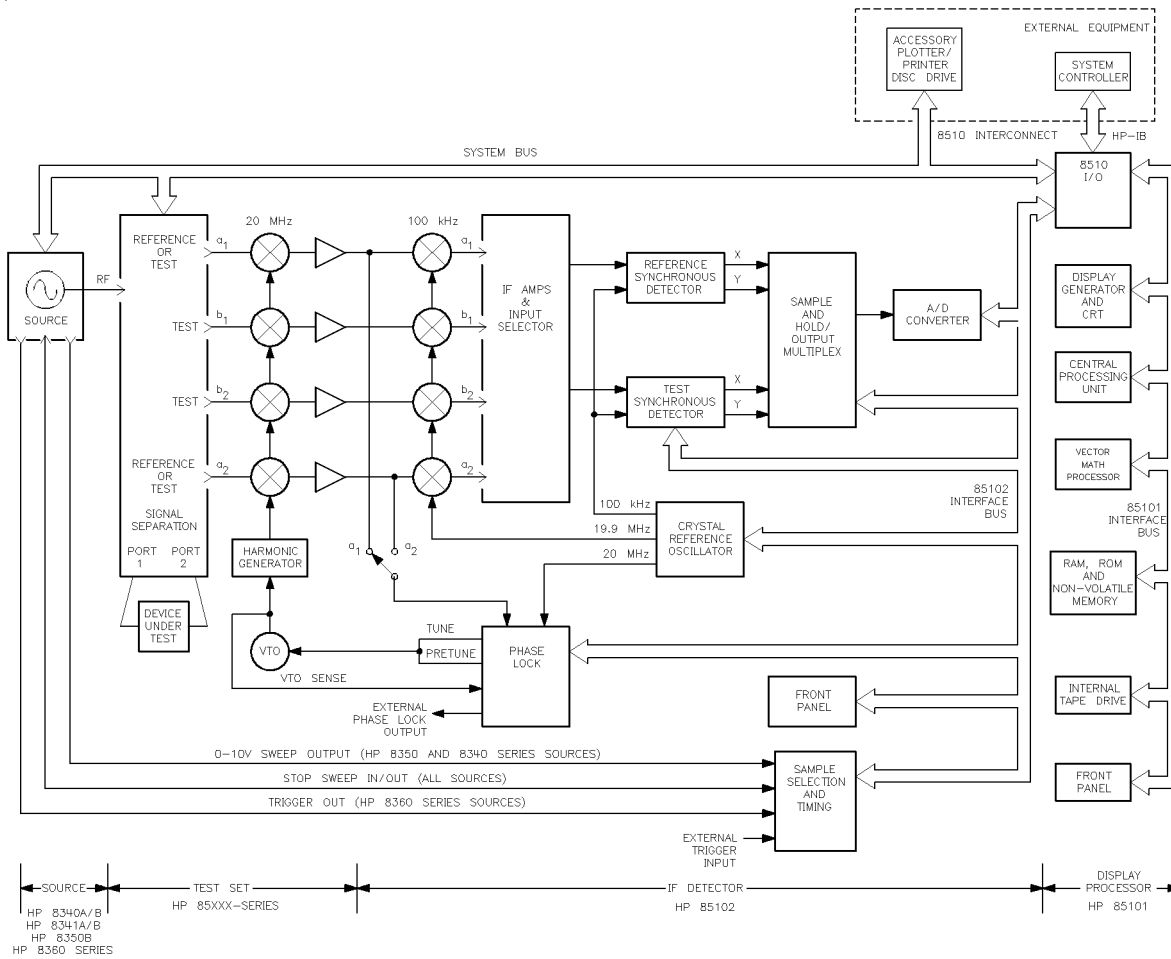
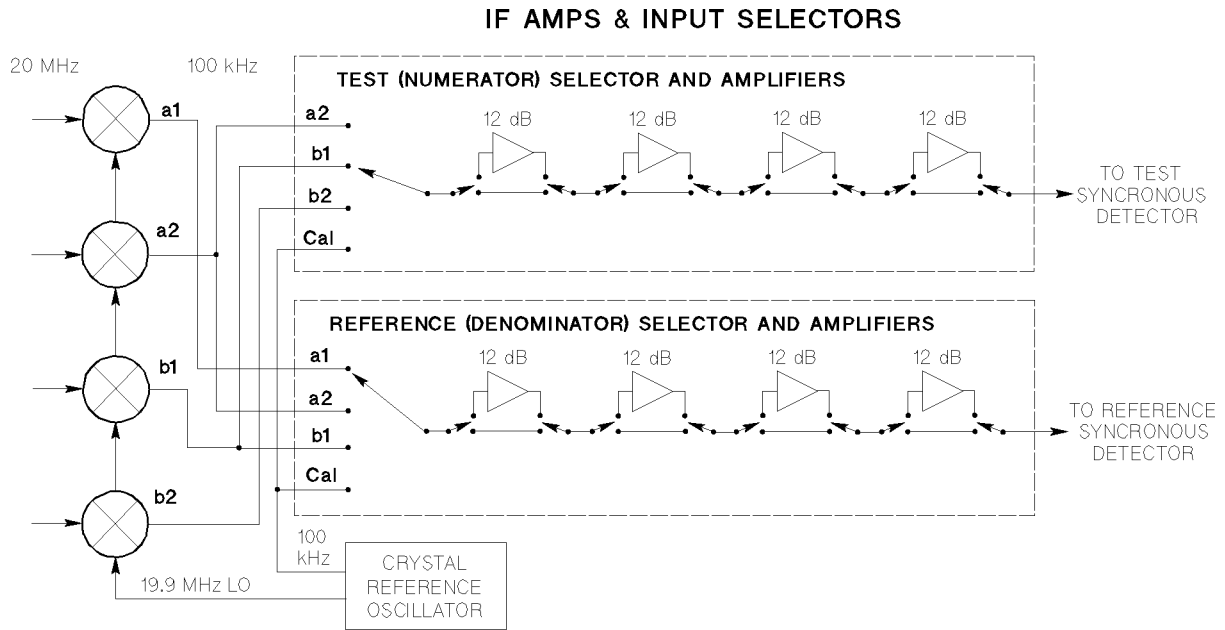

Figure 5-12. Simplified Block Diagram of the Agilent 8510C Network Analyzer
Figure 5-13. Gain Stages in the IF section
- Changes the amount of IF gain so the detectors and A/D converter operate with optimum accuracy (refer to Figure 5-12).
Why the problem occurs. When the network analyzer measures a data point, automatic IF gain control detects the power at the input. Assume (for example) that this is a very low power level. The gain control increases IF gain to amplify the signal. This allows the synchronous detectors and A/D converter (shown in Figure 5-12) to operate in their most accurate range. Now assume the network analyzer measures the next data point, and the power level is much higher. The IF gain stages are still set for the previously-measured low power level. When the large signal arrives, it is amplified greatly and often overdrives the detectors. The error message "IF OVERLOAD" appears when this occurs.
Figure 5-13 shows a block diagram of the IF gain stage.
Note the block in Figure 5-12 titled “IF AMPS & INPUT SELECTOR.” It is this section that we evaluate more closely in Figure 5-13.
Notice that, in Figure 5-12, the 100 kHz mixers are shown as having only a single output each. This is not really true. Figure 5-13 shows a closer representation of the actual circuitry. The different signals (a1, a2, b1, and b2) are split off and routed to *input selectors*. When you select a specific parameter, a ratio such as $a1/b1$ is selected. The network analyzer automatically selects the correct positions on the input selector to send the b1 signal to the test channel, and a1 to the reference channel.